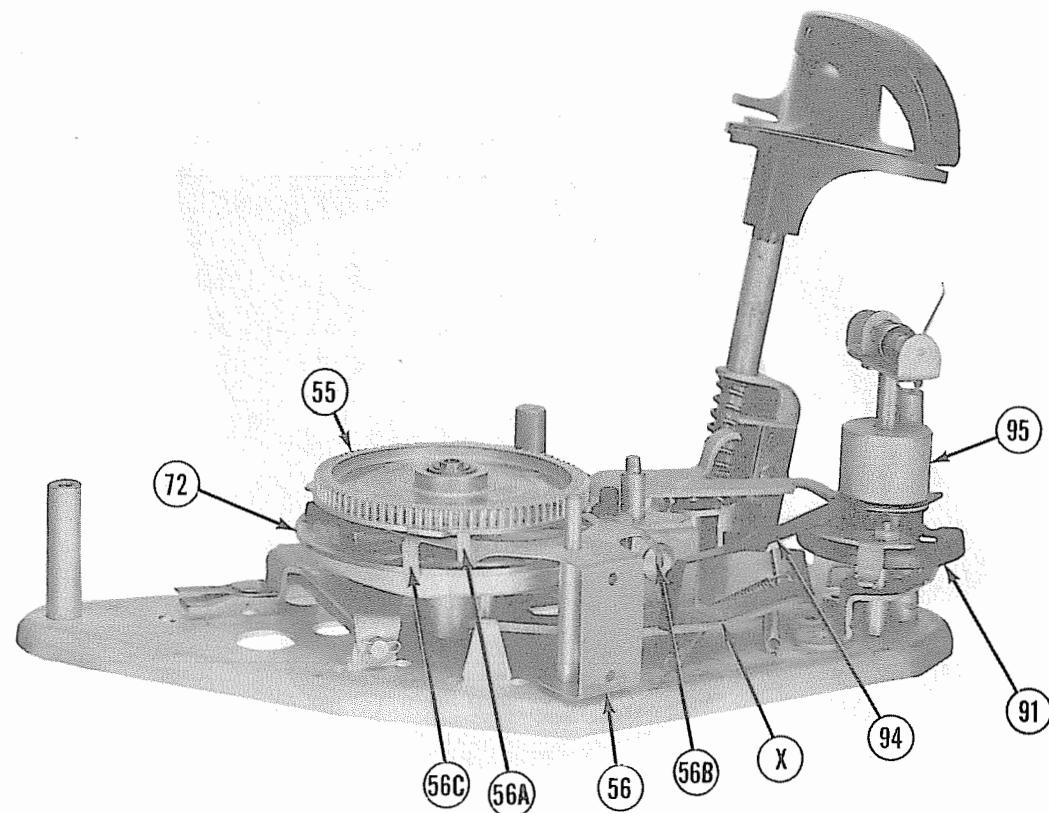

Figure 4
1. Automatic trip arm (94) bent, thereby not contacting the velocity trip and roller assembly (56):
(a) Straighten trip arm (94) so that it will engage the turn-down tab (56B) (see Figure 4).
2. Turn-down tab on velocity trip (56) bent up, resulting in the trip arm (94) passing under the trip (56).
3. Check the velocity trip and roller assembly (56) for binding.
4. Check for binding or broken trip dog on main cam (72).
3. If the clearance between the needle and the top record is not approximately 1/16", adjust by bending the raising lever (84) at point (X) (see Figure 4).